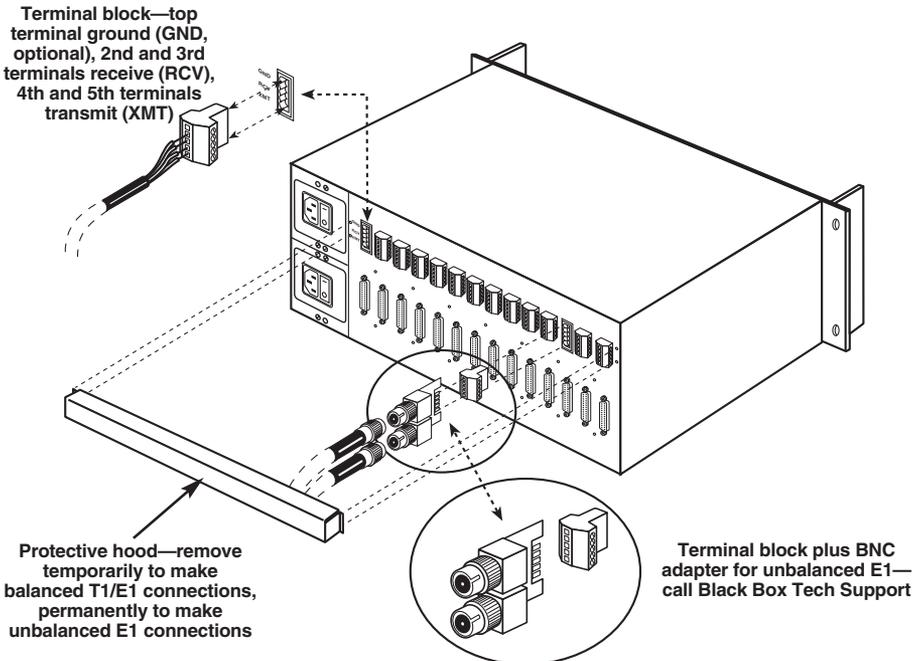
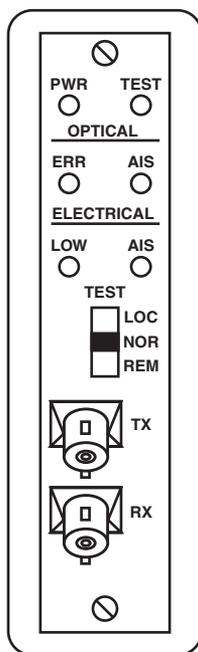

Figure 4-1. The rear of the RackNest 2/14.
Figure 4-4. Front panel of FOLD Card models.
As Figure 4-1 shows, the terminal block has two XMT terminals for the transmit pair of balanced T1/E1 wires and two RCV terminals for the receive pair of wires, plus a terminal for an optional ground connection.
You are now ready to attach data cabling to your FOLD. As you do so, refer to Figure 4-1 in **Section 4.1** and Figure 4-4 on the next page.
- In order to use the FOLD's unbalanced E1 interface, you'll need to permanently remove the Nest's hood flange and install a special adapter with BNC connectors (not included) in that slot's terminal block, as shown in Figure 4-1 in **Section 4.1**. Call Black Box Technical Support for details.